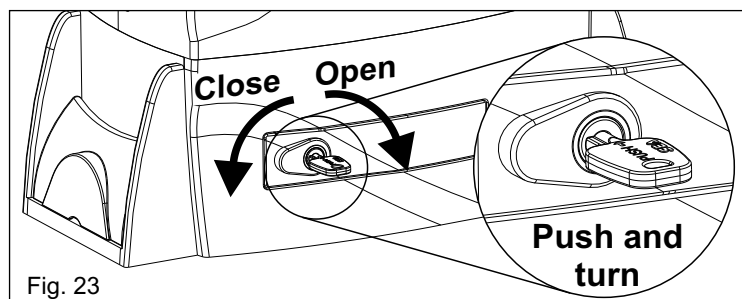

Fig. 23
- Insert the key, **push** and turn about 90° clockwise (Fig. 23).